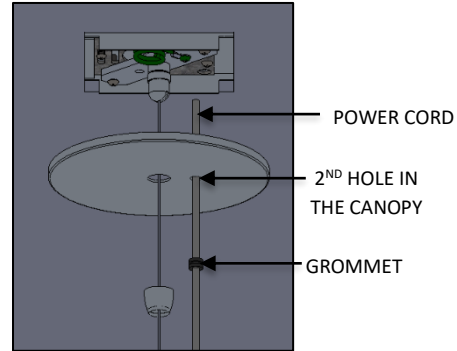

FIG. 43 – CORD INSTALLATION
35. Feed POWER CORD through GROMMET and then pass it through the 2ND hole provided in the CANOPY as shown below in FIG. 43.